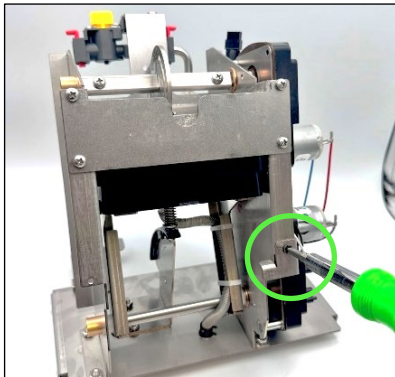

Fig. 1
2. Remove the stop bracket using a Phillips Head screwdriver (Fig 1).